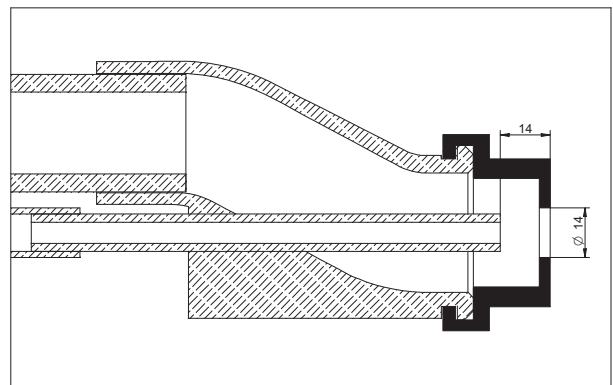

FIG.12
However, it is important to measure the distance of the nozzle (ref.9c) from the outlet so that it is the same as the diameter of the deflector (fig.12).